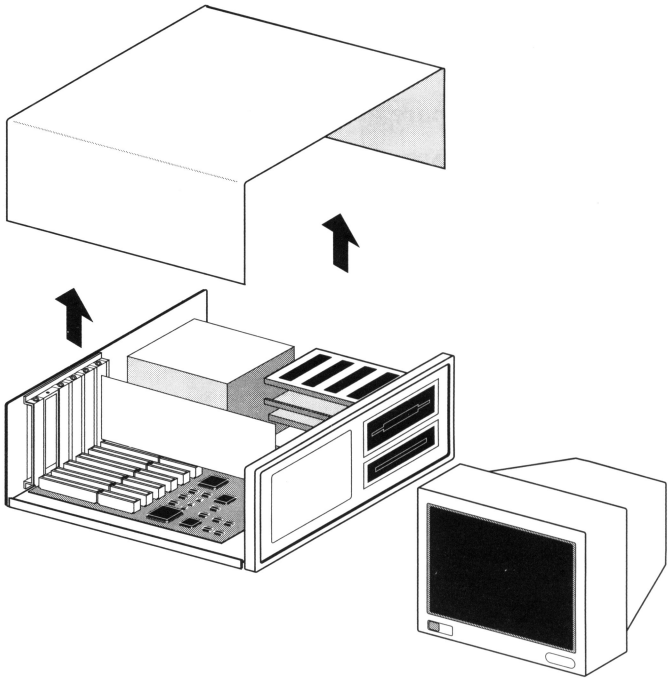

Figure 1-2. Removing the Cover
2. Remove the computer's cover and choose an expansion slot, as shown in Figure 1-2.